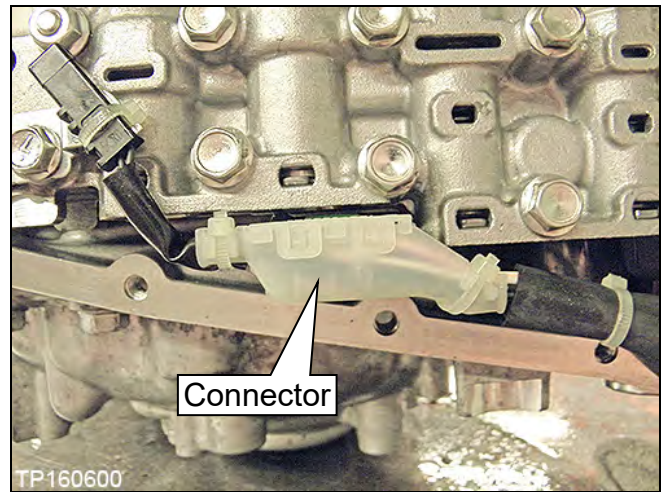

Figure 95
4. Connect the electrical harness connector (see Figure 95).